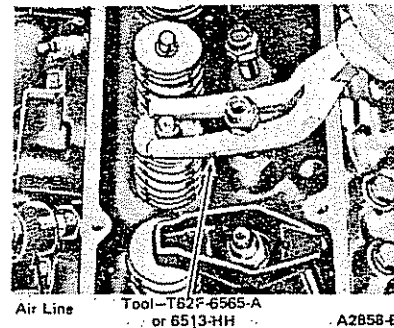

FIG. 40 Compressing Valve Spring—In Chassis
5. Install the stud nut and position the compressor tool as shown in Figure 40. Compress the valve spring and remove the retainer locks, spring retainer, sleeve and valve spring